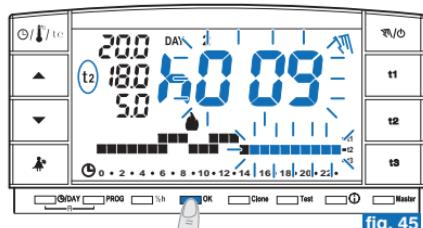

fig. 45
- Press **OK** and the number of hours that temporary manual mode will be active for will blink on the display (example in fig. 45).